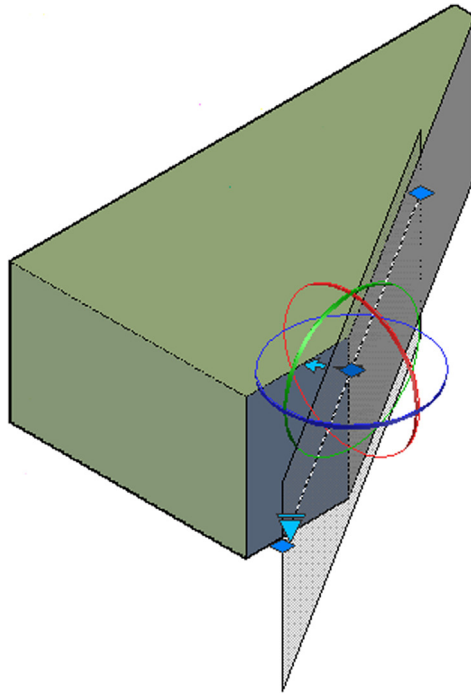

FIGURE 26.32
- **Section Plane:** This tool, found under the Ribbon's Mesh → Section, allows you to easily section a mesh shape to view the interior or just a piece of it. This tool can be used on regular solids as well. Simply press Section Plane and select a method of locating the plane. The result of sectioning a simple box is shown in Figure 26.32. The section itself can be rotated via the gizmo.